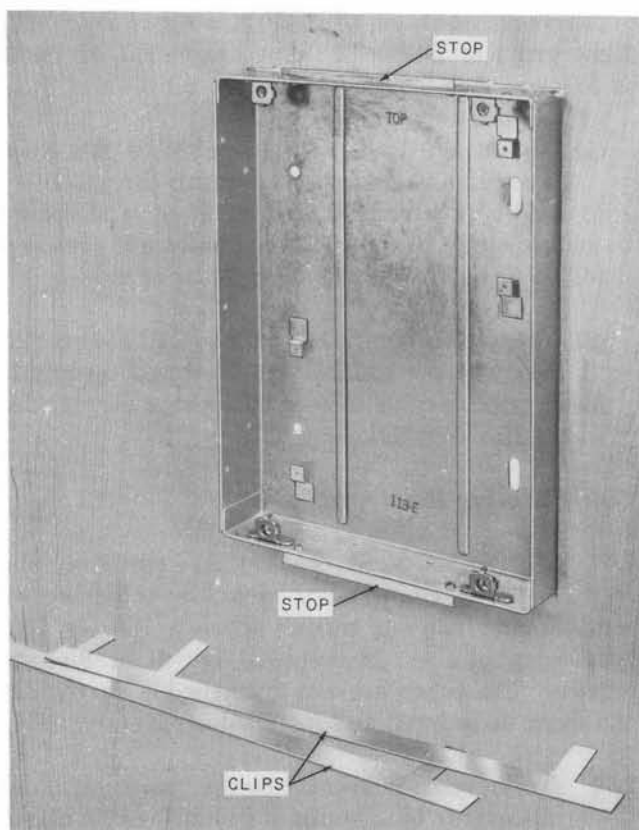

Fig. 4—113E Apparatus Box, with Stops from D-179941 Kit of Parts Installed
- (2) Mount the stops on top and bottom of the 113B (MD) and 113E apparatus box with screws provided (Fig. 4).